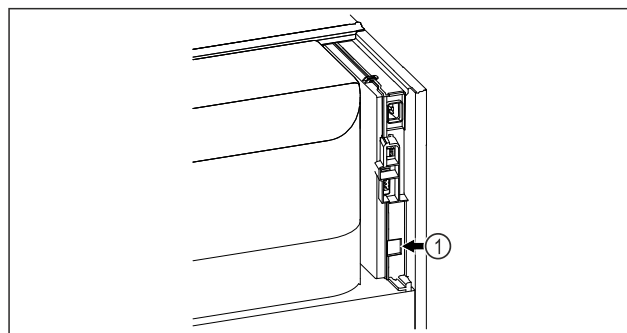

Fig. 100
- ☐ SmartModule Fig. 100 (1) is in use.